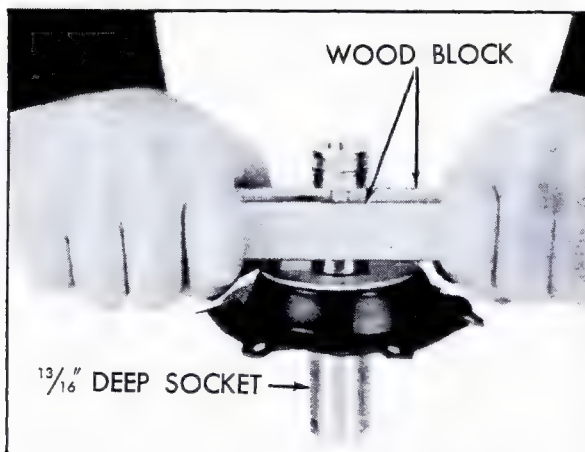

Fig. 4-11 Installing Diaphragm Retainer
2. Use a 13/16 inch deep socket as a pilot for the new diaphragm retainer. Press against the piston shoulder on first stage side, Fig. 4-11 to position diaphragm retainer. The wood blocks used are each 3/4 inch x 3/4 inch x 12 inch.